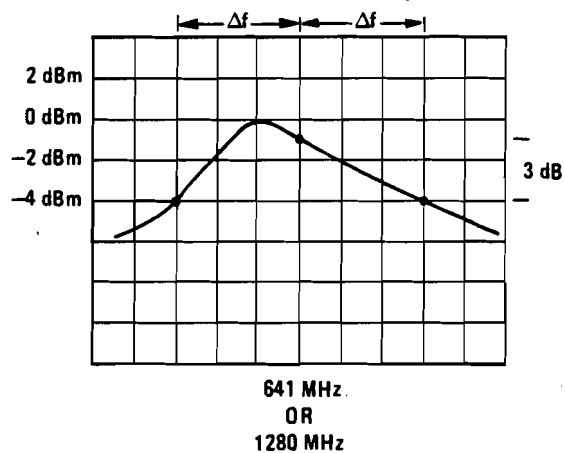

Figure 5-27. Adjustment of Symmetrical Frequency Difference at -3 dB Points (P/O Change 4)
5. Tune the reference signal generator from 295 MHz to 345 MHz. Adjust the DOUBLER-FILTER TRACKING LOW pot, A4A2R40, for symmetrical -3 dB points around the 641 MHz center frequency on the spectrum analyzer display (see Figure 5-27).
8. Tune the reference signal generator from 590 MHz to 690 MHz. Adjust the DOUBLER-FILTER TRACKING HIGH pot, A4A2R29, for symmetrical -3 dB points around the 1279 MHz center frequency on the spectrum analyzer display (see Figure 5-27).
12. Tune the reference signal generator from 295 MHz to 345 MHz and adjust the MODULATOR-FILTER TRACKING LOW pot, A4A2R56, for symmetrical -3 dB points around the 641 MHz center frequency on the spectrum analyzer display (see Figure 5-27).
15. Tune the reference signal generator from 500 MHz to 600 MHz and adjust the MODULATOR-FILTER TRACKING HIGH pot, A4A2R58, for symmetrical -3 dB points around the 1100 MHz center frequency on the spectrum analyzer display (see Figure 5-27).